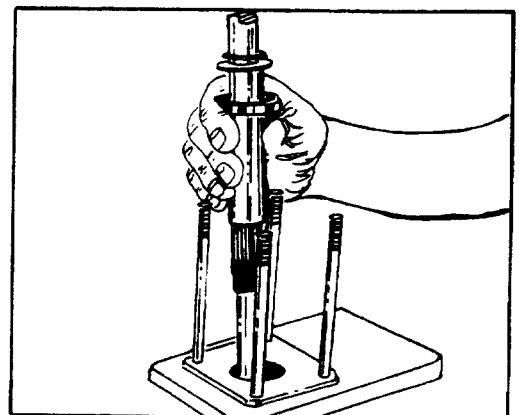

FIGURE 50.
6. Slide input shaft/wheel tube (33) assembly into upper cover end of upper cover and jacket tube assembly (37) and through the bushing (38) until the retaining ring (34) bottoms against washer (35) which bottoms against retainer plate's (36) recessed face and the retainer plate seats against the end of jacket tube. See figures 50 and 51.